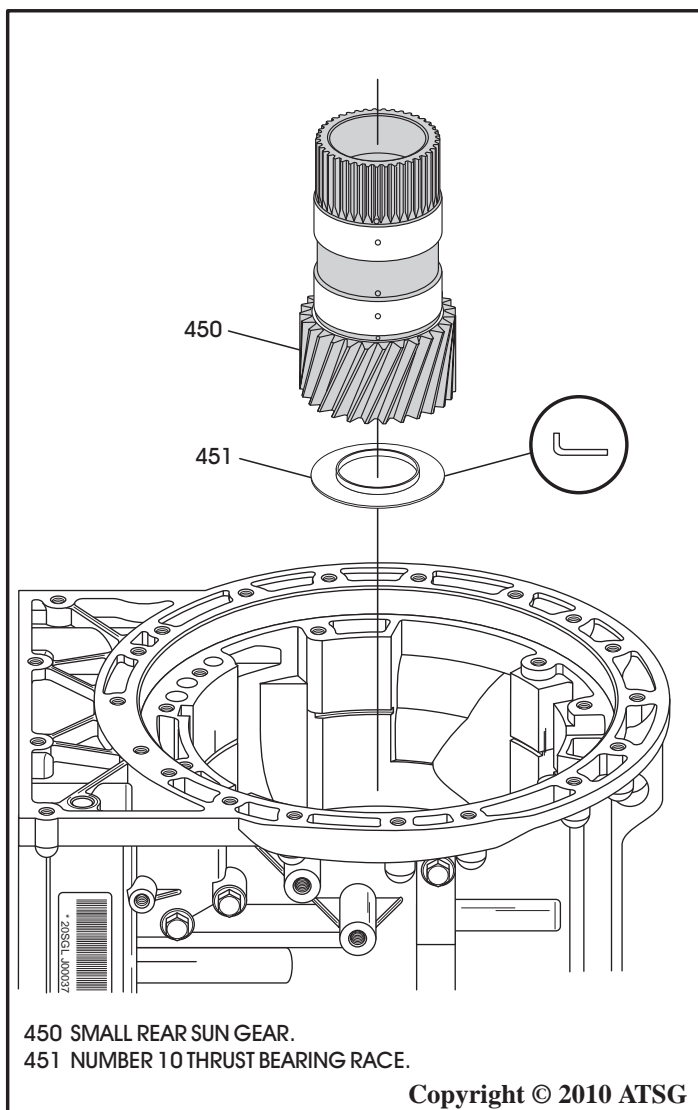

Figure 210
22. Ensure number 10 thrust bearing race is still stuck to bottom of small rear sun gear, as shown in Figure 210, and install sun gear into the rear planetary carrier.